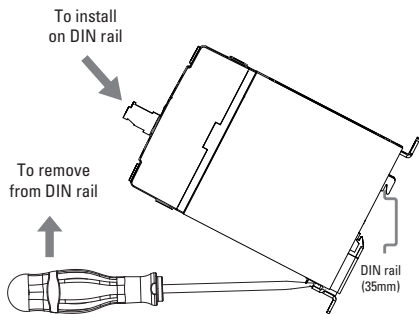

fig. 1 SSR mounted on DIN rail
- Using reasonable force, push DR45 in the direction of the arrow (as shown in fig.1).